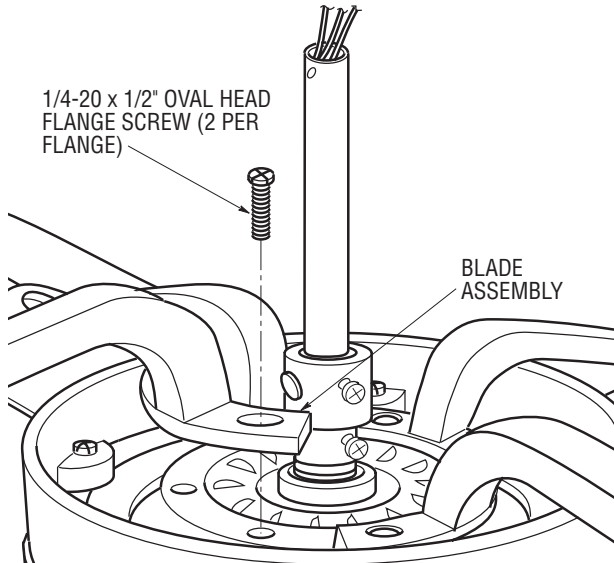

Figure 8
- 12. Position one of the blade assemblies onto the motor hub and secure blade assembly using two 1/4-20 x 1/2" oval head flange screws (provided). Repeat for all blade assemblies (Figure 8).